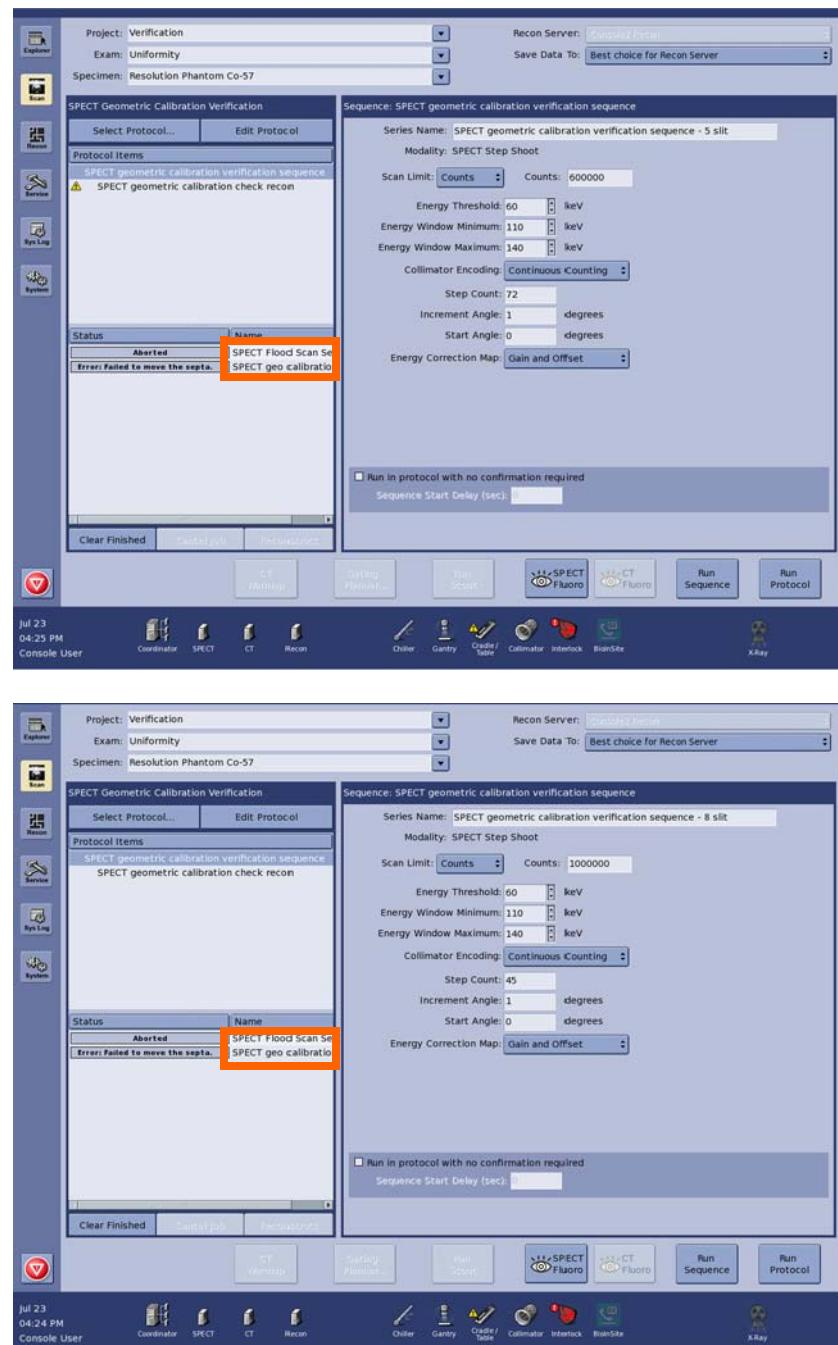
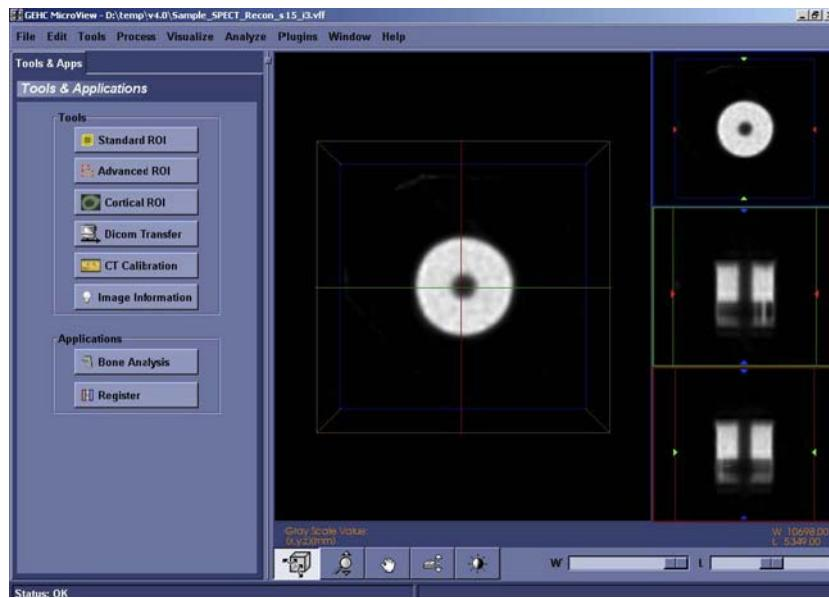

Figure 7-52
Figure 7-55
button. Press the Select Protocol button (Figure 7-52). Select the "SPECT Geometric Calibration Verification - 5 Slit" protocol if using a 5-slit collimator (top screen) and the "SPECT Geometric Calibration Verification - 8 Slit" protocol if using an 8-slit collimator (bottom screen). If Tc-99 liquid isotope is available, set the energy threshold to 50 KeV and the energy window to 120 to 160 KeV. For an 8-slit collimator, set the Counts to 1,000,000, the Step Count to 45 and Increment Angle to 1.0 degree. For a 5-slit collimator, set the Counts to 600,000, the Step Count to 72 and Increment Angle to 1.0 degree.
Note: The recon type in Figure 7-52 must match the collimator type. If not:
- e.) Click on the protocol under Protocol Items (Figure 7-52). Select the appropriate number of subsets from the drop-down box (15 for 8 slits and 24 for 5 slits).
- 5.) After the scan is complete, and acquisition data is completed and saved, recon will start automatically. When complete, click on the recon Name (boxed areas in Figure 7-52) and click the View button when enabled. MicroView opens and loads the recon image as shown in Figure 7-55.
If a scan is required, set the scan parameters as shown in Figure 7-52, depending on which collimator is used.